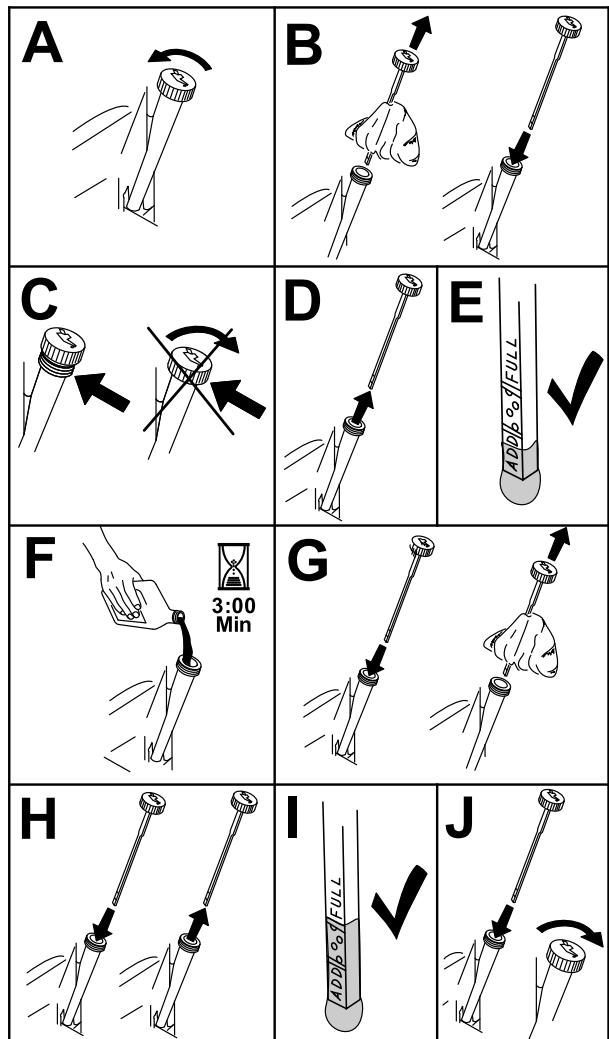

Figure 23
3. To keep dirt, grass clippings, etc., out of the engine, clean the area around the oil-fill cap and dipstick before removing it (Figure 23).